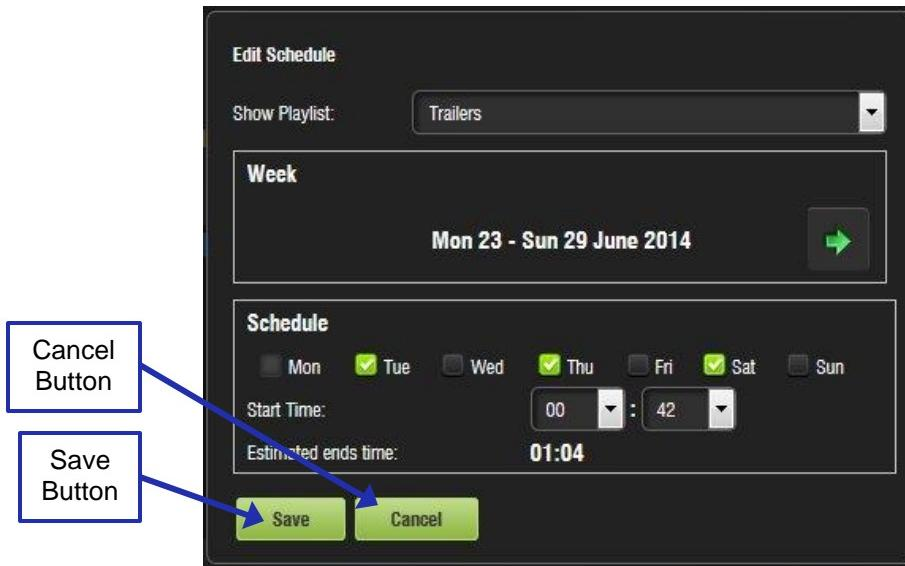

Figure 275: Edit Schedule Window
- The Edit Schedule window will appear (Figure 275).
- Select the day(s) to schedule the playback by checking the corresponding boxes (Figure 275).
- Click Save when finished or Cancel to cancel the operation (Figure 275).